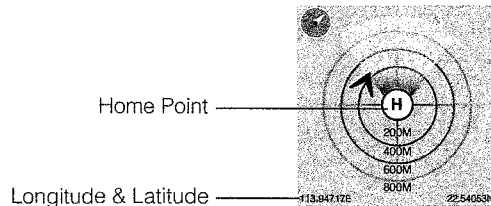
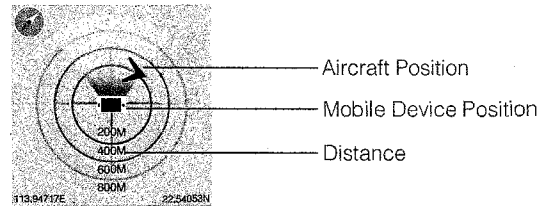

Figure 69
Figure 70
- Distance units are metric in Figure 69 and Figure 70. Users can switch the unit to imperial in the settings page.